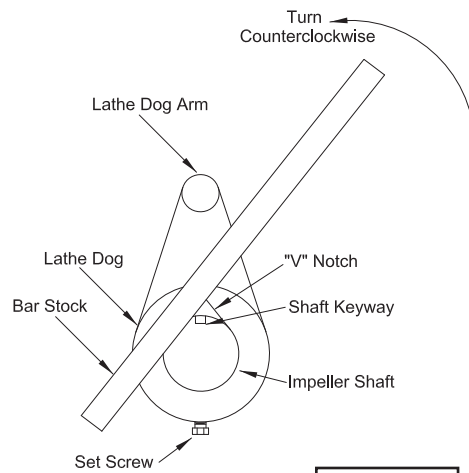

Figure 5
With the impeller (61) blocked use a long piece of bar stock to pry against the arm of the lathe dog in a counterclockwise direction (while facing the drive end of pump). Do not damage the shaft or keyway. Once impeller breaks loose, remove wood block and lathe dog. (See Figure 5).